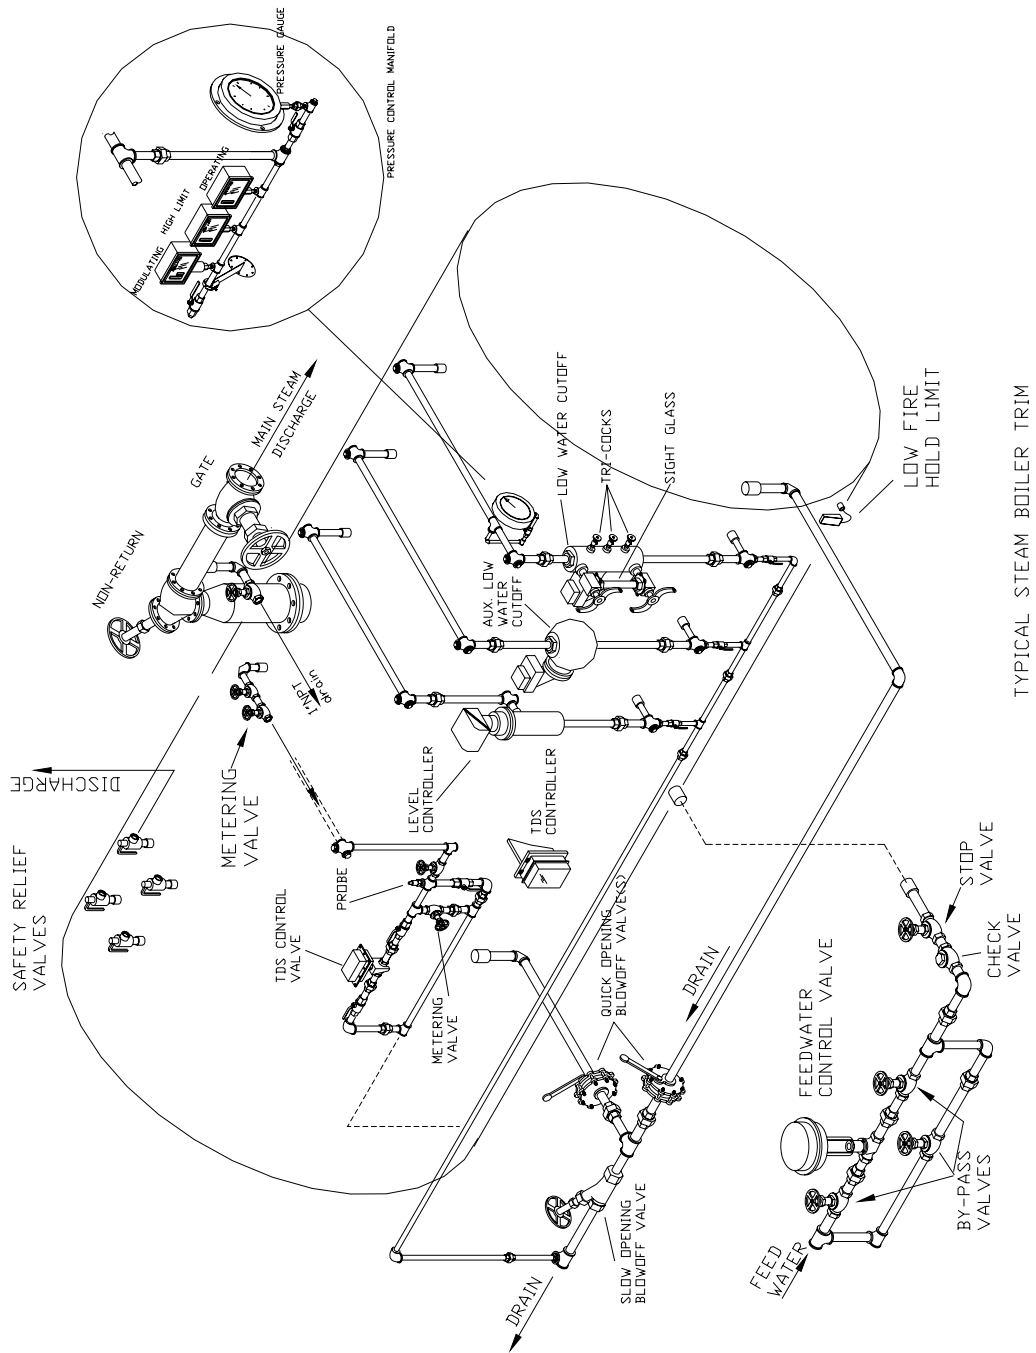

FIGURE 2.1
A. Component Overview –General Trim Items Fig 2.1, Fig 2.2